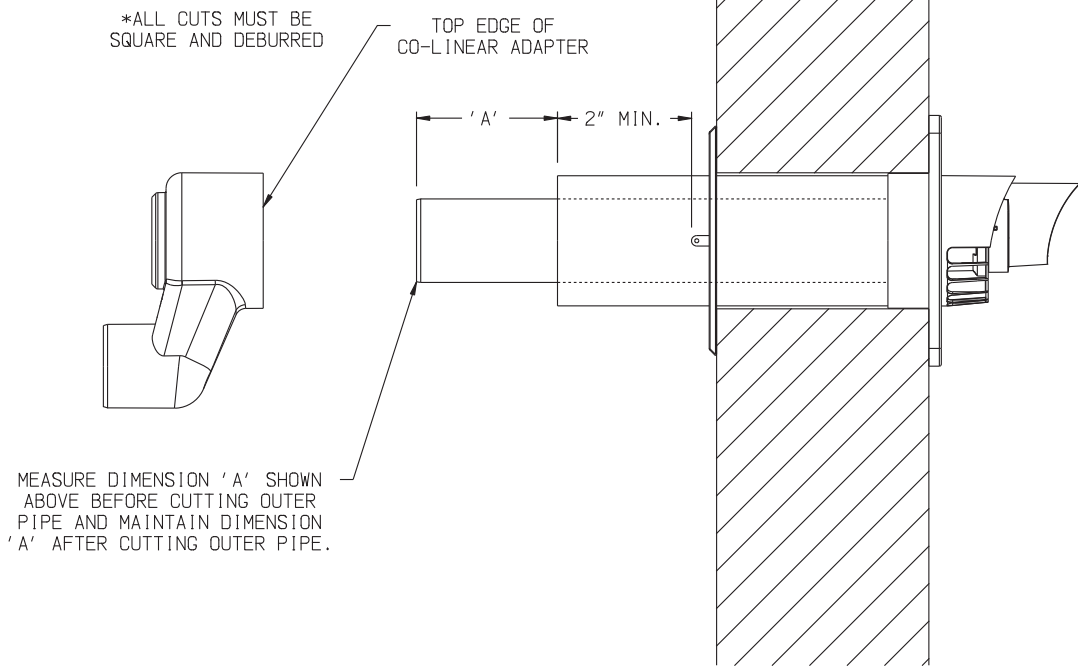

FIGURE 7.38: CUTTING DURAVENT POLYPRO HORIZONTAL CONCENTRIC VENT TERMINAL
- b. If desired, the terminal can be shortened. Mark the desired location of the cut on the outer pipe no closer than 2" from the edge of the tab on the interior wall plate. Prior to cutting outer pipe measure dimension 'A' of the inner pipe as shown in Figure 7.38 and maintain this dimension after cutting the outer pipe. All cuts must be square and de-burred.